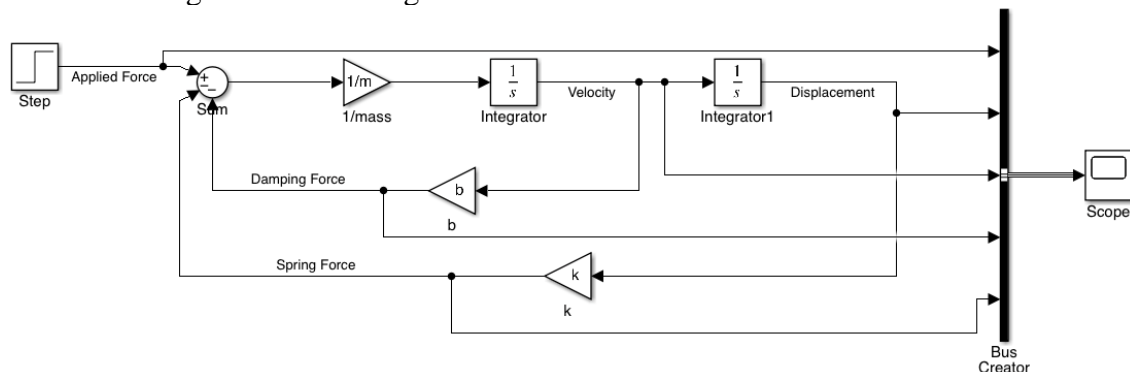

Figure 2: Translational System Block Diagram with Scope
6. The final block diagram of the system with a scope for observation will result in looking like the diagram shown in figure 2.